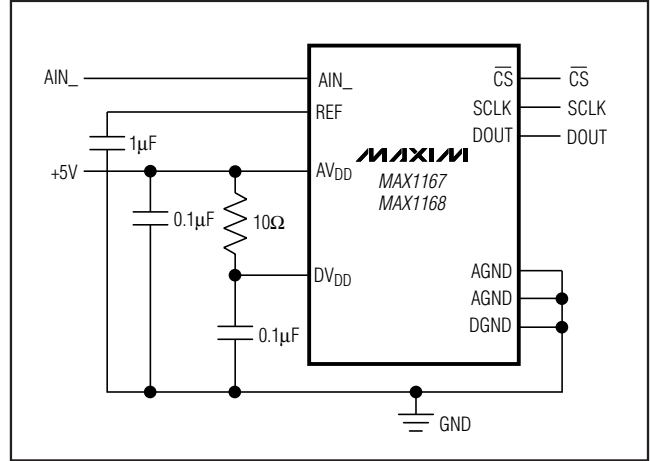

Figure 25. Powering AV_{DD} and DV_{DD} from a Single Supply
Use printed circuit (PC) boards with separate analog and digital ground planes. Do not use wire-wrap boards. Connect the two ground planes together at the MAX1167/MAX1168 AGND terminal. Isolate the digital supply from the analog with a low-value resistor (10Ω) or ferrite bead when the analog and digital supplies come from the same source (Figure 25).